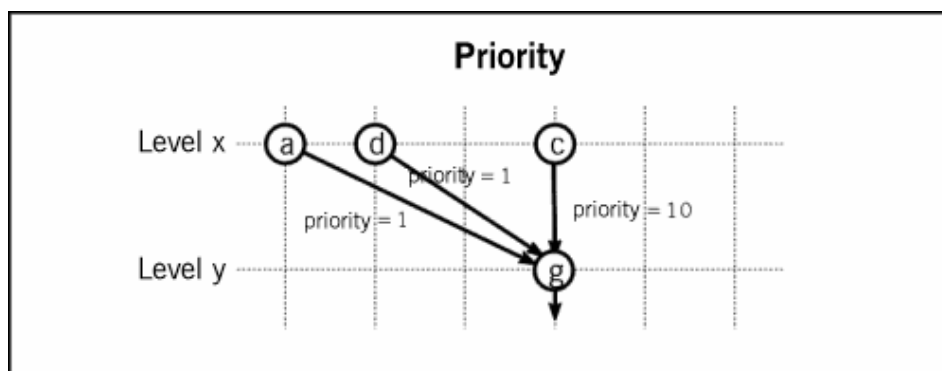

Figure 145: Schematic representation - Priority
- Priority:** By providing an integer value  $n$  for this parameter you can specify how important an instance of this relation class is in comparison with instances of other relation classes. When arranging the objects within a model it is more likely that two objects joined with this relation will be horizontal or parallel with each other (see fig. 145). E.g. objects, which are joined by a relation of high priority are more likely to be positioned above or beside each other.